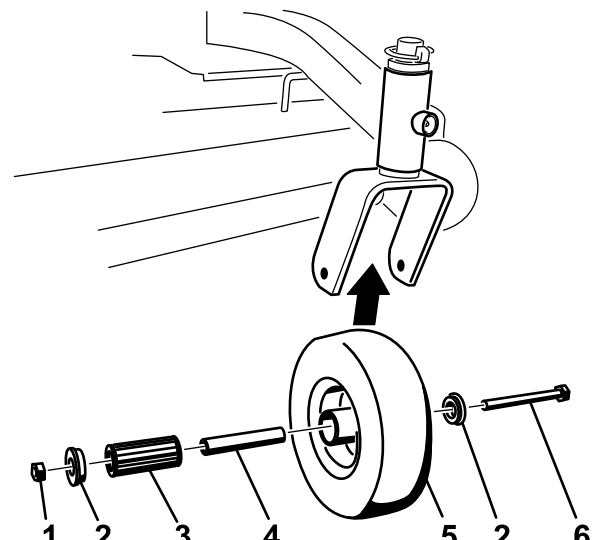

Figure 44
2. Remove one bushing, then pull the spanner bushing and roller bearing out of the wheel hub (Figure 44).
3. Remove the other bushing from the wheel hub and clean any grease and dirt from the wheel hub (Figure 44).
4. Inspect the roller bearing, bushings, spanner bushing and inside of the wheel hub for wear. Replace any defective or worn parts (Figure 44).
5. To assemble, place one bushing into the wheel hub. Grease the roller bearing and spanner bushing and slide them into the wheel hub. Place the second bushing into the wheel hub (Figure 44).
6. Install the caster wheel into the caster fork and secure with the wheel bolt and locknut. Tighten the locknut until the spanner bushing bottoms against the inside of the caster forks (Figure 44).
1. Remove the locknut and wheel bolt holding the caster wheel to the caster fork (Figure 44).